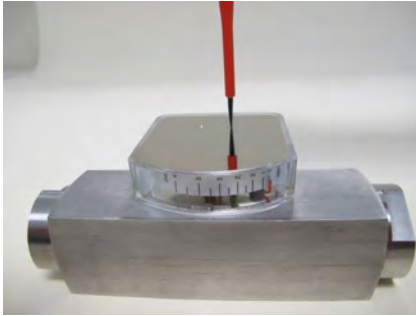

Fig. 62
- 24.** ▶ Screw in and tighten the fixing screw of the display housing cover (Fig. 62), observing the proper torque (↳ Chapter 11.1 “Tightening torque” on page 85).